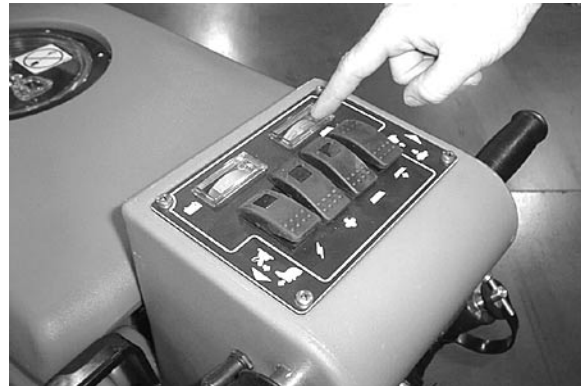

FIG. 15
9. Once machine begins to move, check the needle position of the brush pressure meter. Depress brush pressure switch to adjust brush pressure. Never operate machine in the red zone (*Figure 15*).